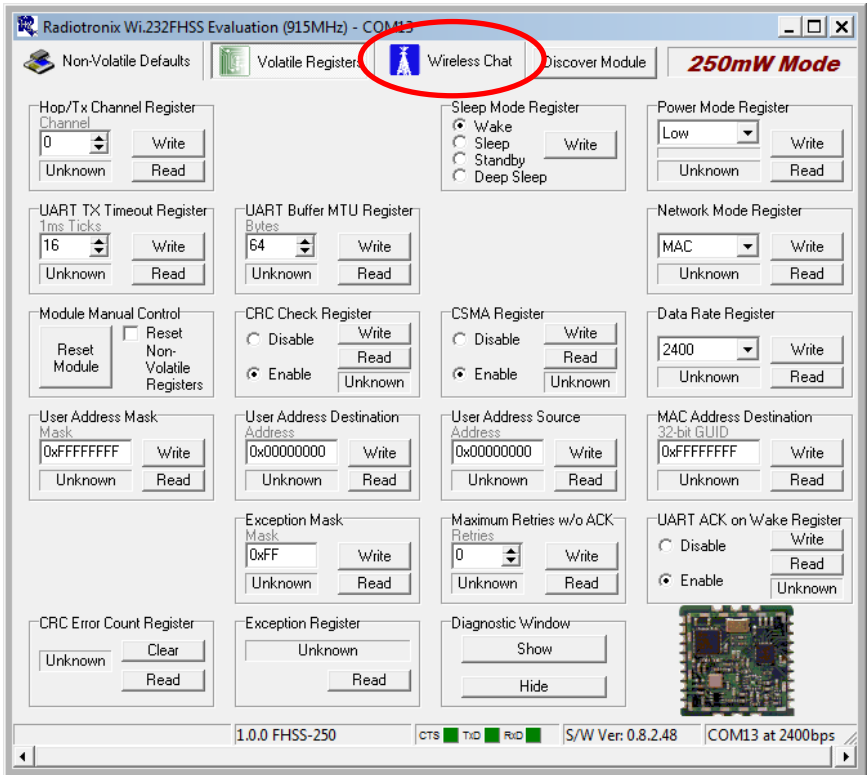

Figure 8: 250 Series Transceiver Development System Software Volatile Registers Tab
7. The software opens on the Volatile Registers tab. Click on the “Wireless Chat” tab as shown in Figure 8.